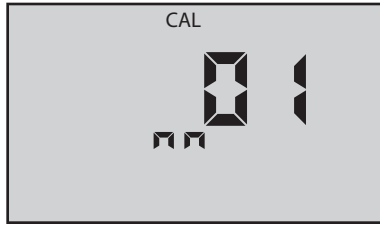

Figure 14
7. Press $\left(\frac{\text{CAL}}{\text{MCLR}}\right)$ to accept the change (new month), (see Figure 14, pg. 42).